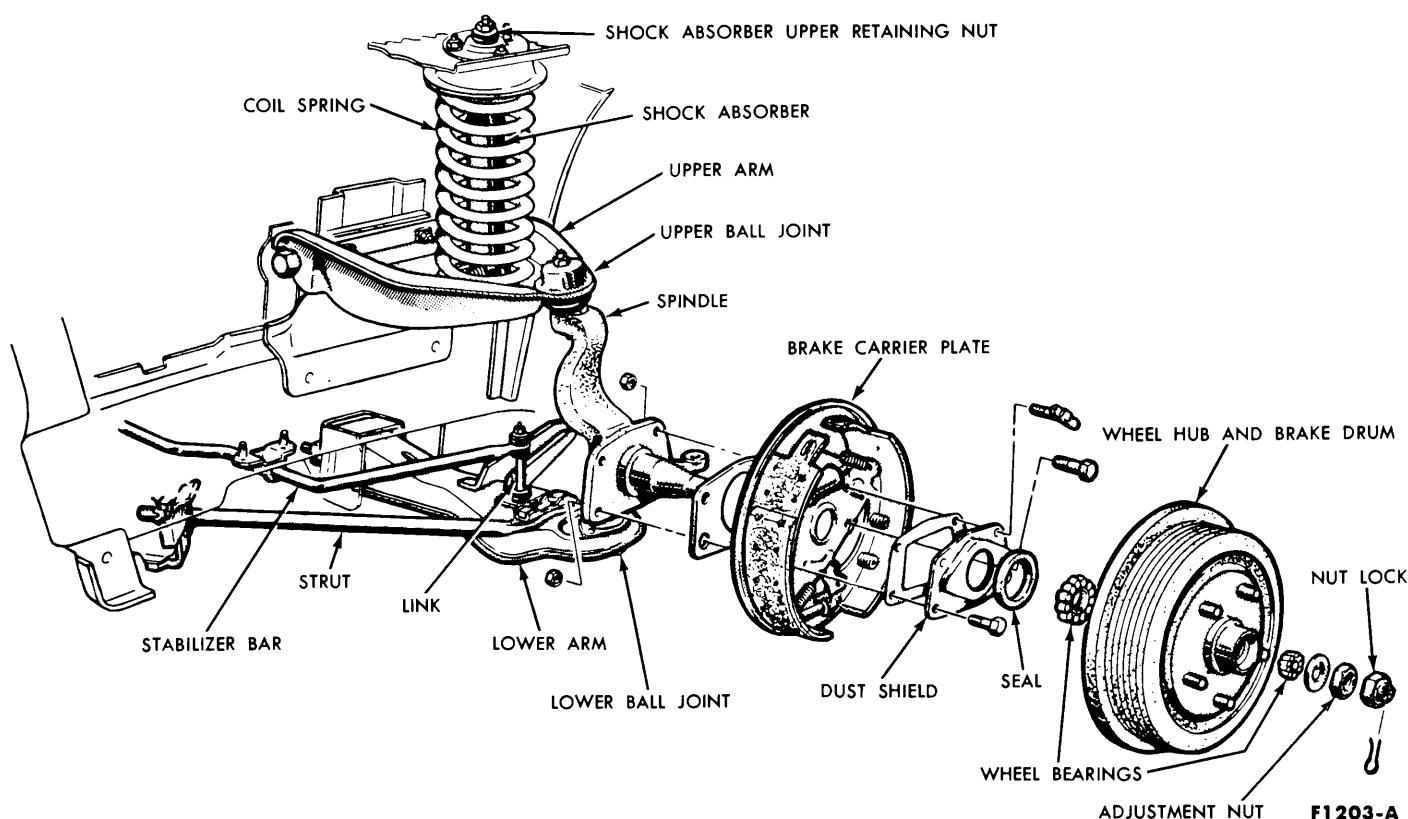

FIG. 1—Front Suspension
pivots on a bushing and shaft assembly which is bolted to the underbody. The lower arm pivots on a bolt mounted in a bracket which is bolted to the underbody (Fig. 1). A coil spring seats between the upper arm and the top of the spring housing. A double-acting shock absorber
2. Remove the link-to-stabilizer bar retaining nut, washers, and insulators, and disconnect the link from the bar (Fig. 1).